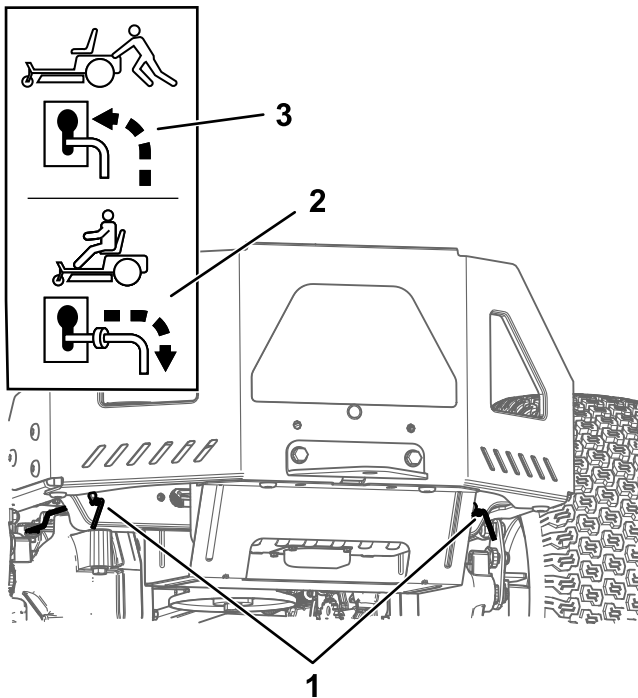

Figure 30
4. Move both bypass levers forward through the slotted hole and down to lock them in place (Figure 30).